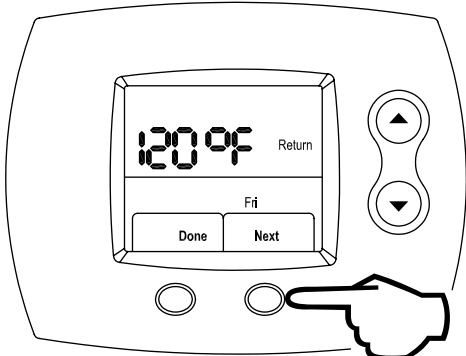

Figure 138
Step 21: Once the water temperature for the Return time period is selected, press the **RIGHT** (Next) button to lock in the Return period water temperature, as shown in Figure 138. Now, the Return time period is set for day being edited.